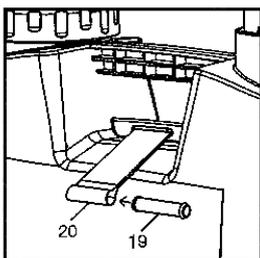

fig.1
- 4.1.1. Pull the carrying strap through the opening under the carry handle so that the strap retainer is at the front (fig.1).